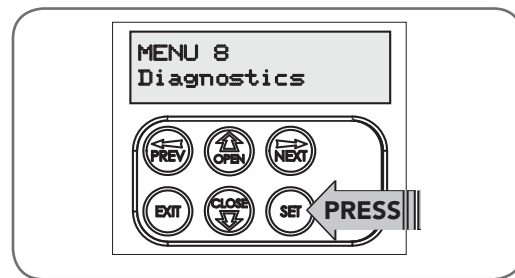

Fig D.1
- Press PREV to navigate to Menu 8 (**Fig. D.1**).